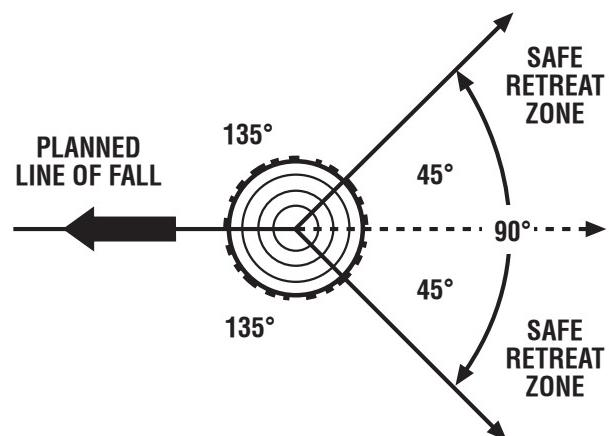

Fig. 13
- Before any cuts are started, pick your escape route (or routes in case the intended route is blocked); clear the immediate area around the tree and make sure there are no obstructions in your planned path of retreat. Clear path of safe retreat approximately 135° from planned line of fall. The retreat path should extend back and diagonally to the rear of the expected line of fall. *See Figure 13.*